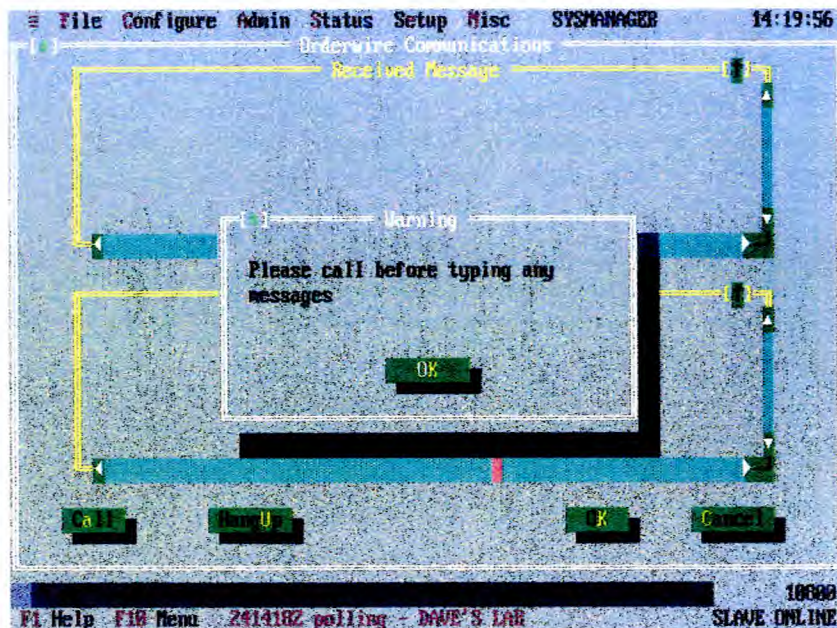

Fig 10
14.1 Select CALL. Failure to do so will result in display Fig 10.